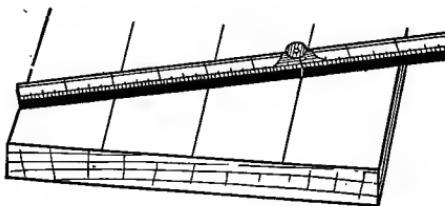

FIG. 146. -- How to Divide a Board into Equal Parts.
**Dividing a Board into a Number of Equal Parts**, as shown in Fig. 146. When a board is of an odd width,